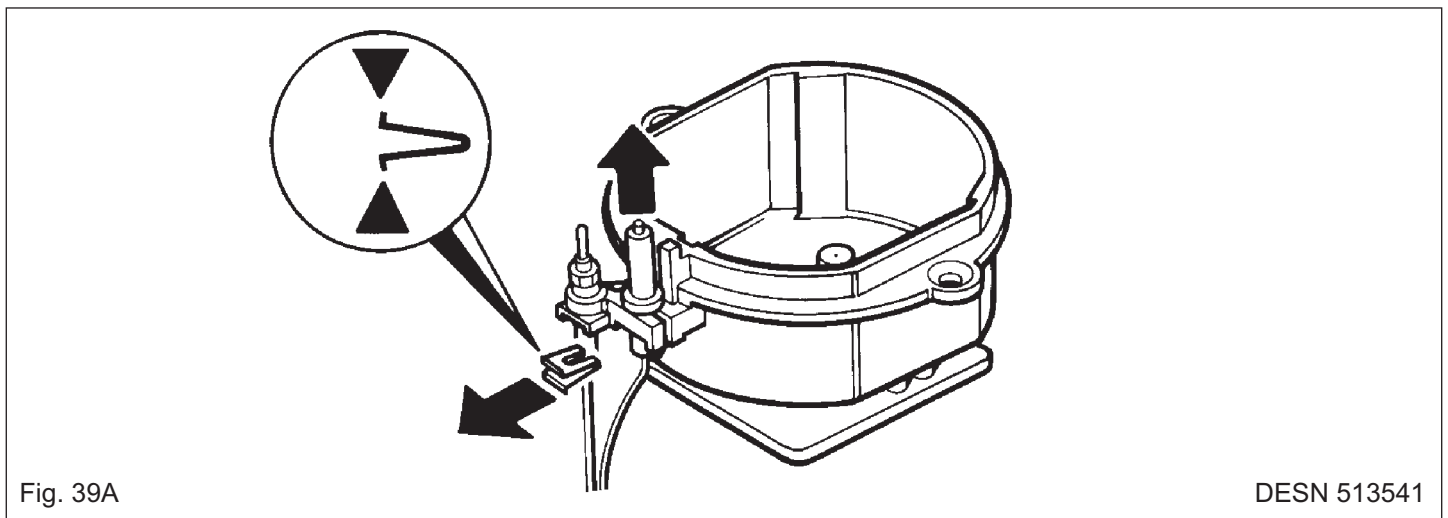

Fig. 39A
4. Withdraw clip securing electrode to burner and withdraw lead and electrode (See Fig. 39A and 39B).